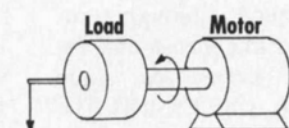

FIGURE 4A
- by measuring the reaction torque at the motor frame. (See Figures 4a, 4b and 4c.)